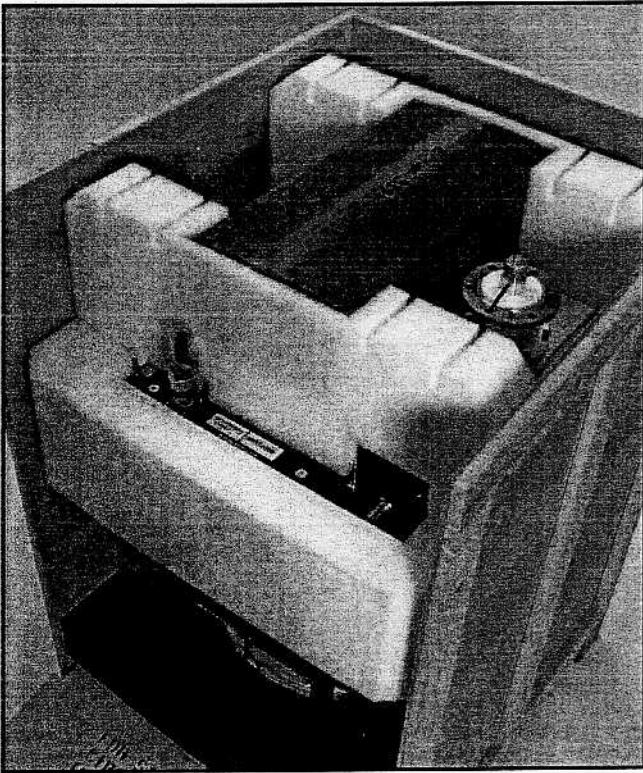
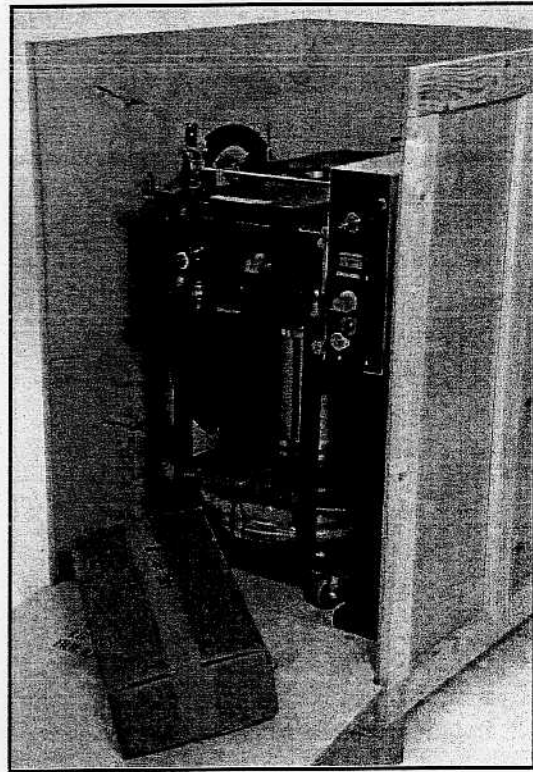

Fig. 4d
Fig. 4e
- iv. Remove the accessory pack from the foam cap (see Fig. 4d), then remove the foam cap (see Fig. 4e).